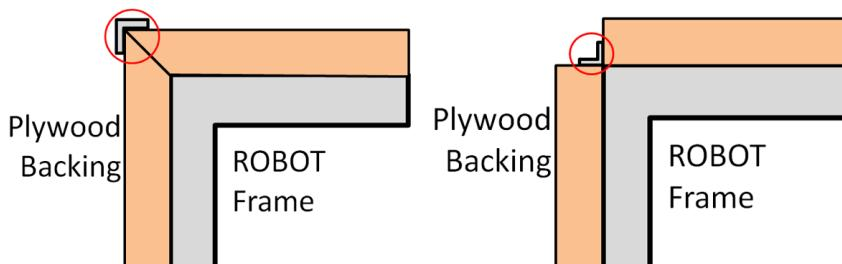

Figure 9-6 Hard parts of BUMPER corners
F. optionally use metal brackets (i.e. angle or sheet metal) or other fasteners (e.g. staples, screws, adhesives, etc.) to attach BUMPER segments to each other (see Figure 9-6).